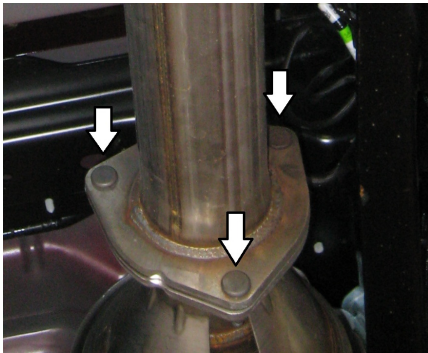

Figure 6
4. Loosen the three (3) nuts securing the extension pipe to the flange directly behind the exhaust filter and remove the extension pipe. **Refer to Figure 6.**